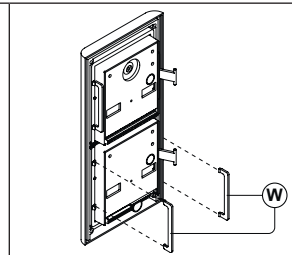

Fig. 7
Fit the anti-tampering locks (W) as shown in **Fig. 7**.